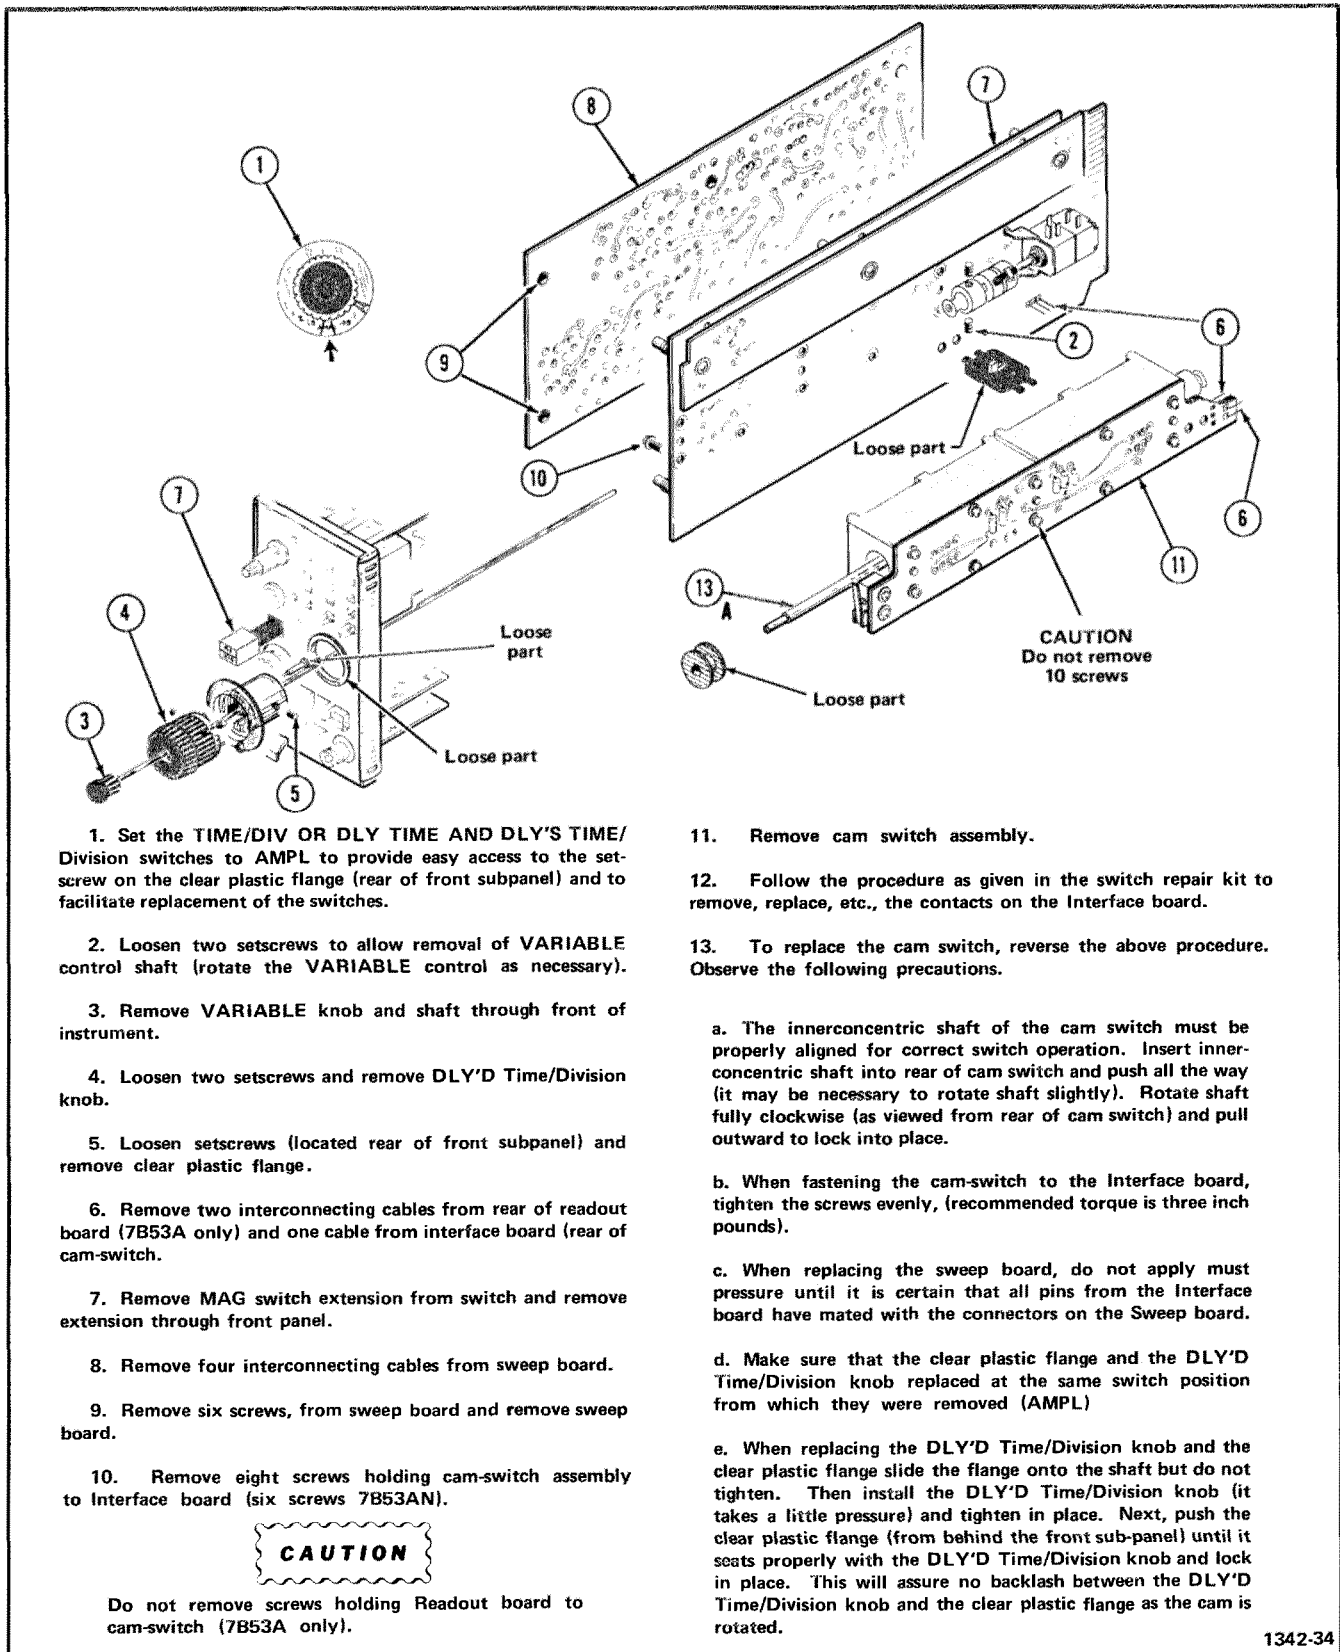

Fig. 5-2. Cam Switch Removal.
b. **CAM-TYPE SWITCH.** The cam switch used in the 7B53A/7B53AN consists of two rotating cams (front portion for TIME/DIV OR DLY TIME and rear portion for DLY'D Time/Division) which mate with contacts on an adjacent Interface circuit board. These contacts are activated by lobes on the cams as the switch is rotated. The switch can be disassembled for inspection, cleaning, repair, or replacement, but it is recommended that the switch be removed from the instrument only as a unit. See Fig. 5-2 for special instructions on cam-switch removal.